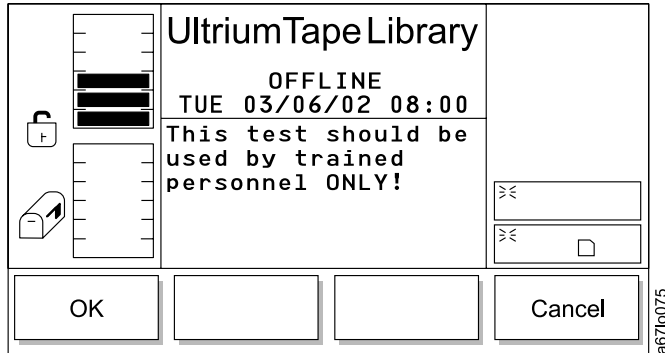

Figure 177. Step Dialog
- If **Step** is selected, the Step Dialog displays (see Figure 177 on page 142).